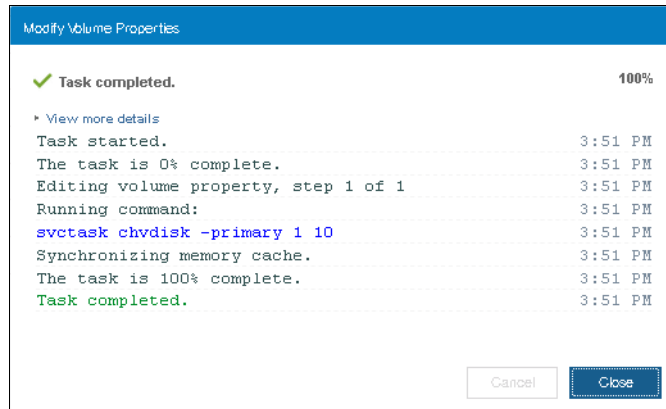

Figure 6-62 Primary copy change task completed
5. A task completion window will be shown as in Figure 6-62 on page 316.